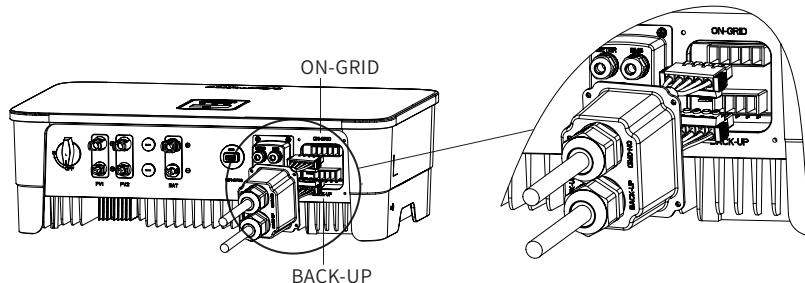

Figure 4-31
- ⑤ Insert the assembled AC connector to the corresponding AC port in the inverter, as shown in Figure 4-31: